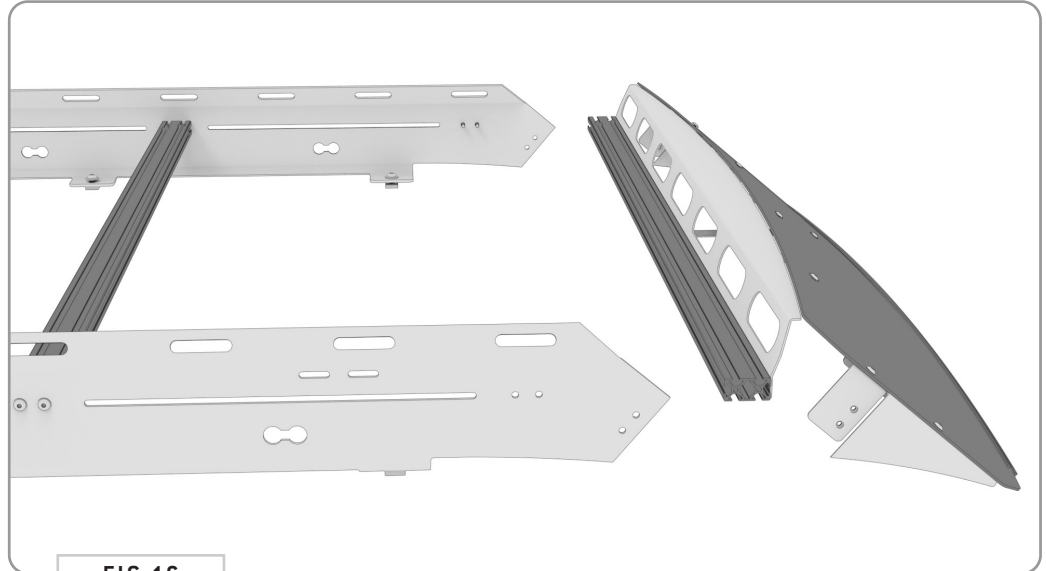
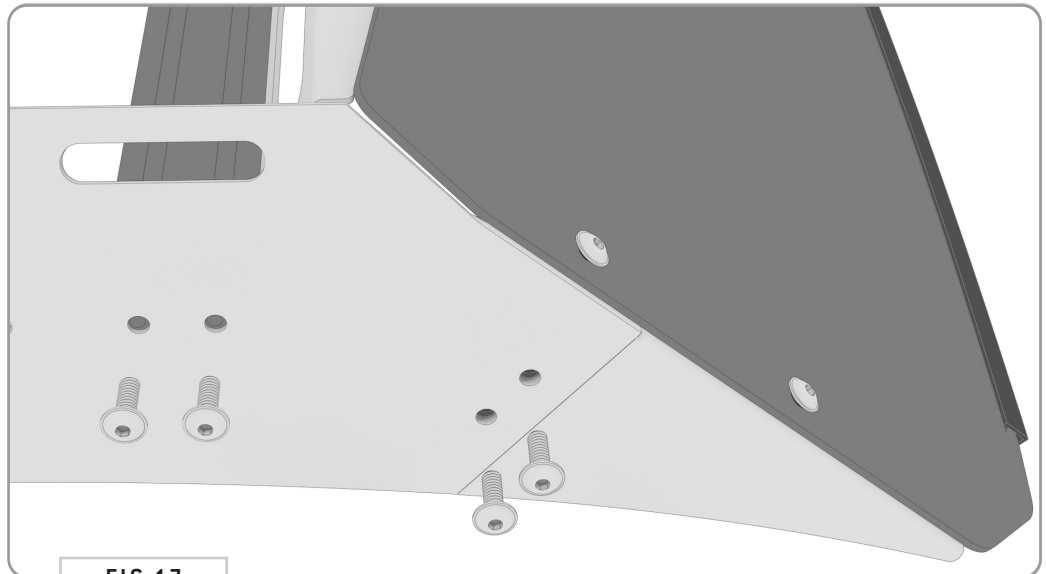

FIG 16
FIG 17
5.1 Fairing Install: Now you're ready to attach the fairing to the roof rack. Slide it in from the front and into the location shown in FIG 16. Tighten down using (8) 1/4-20" Flange Head Screws (FIG 17).